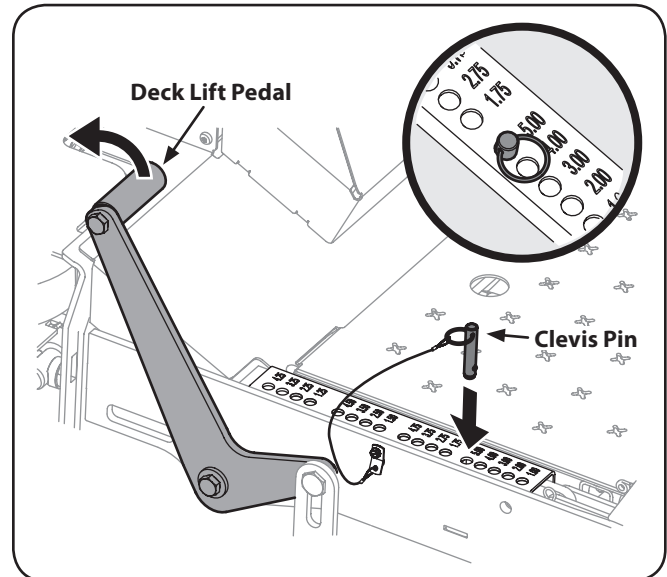

Figure 5-3
1. Use the deck lift pedal to raise the deck to its highest position, place the clevis pin attached to the tractor into the desired index hole on the deck height index, then slowly release the deck lift pedal. See Figure 5-3.